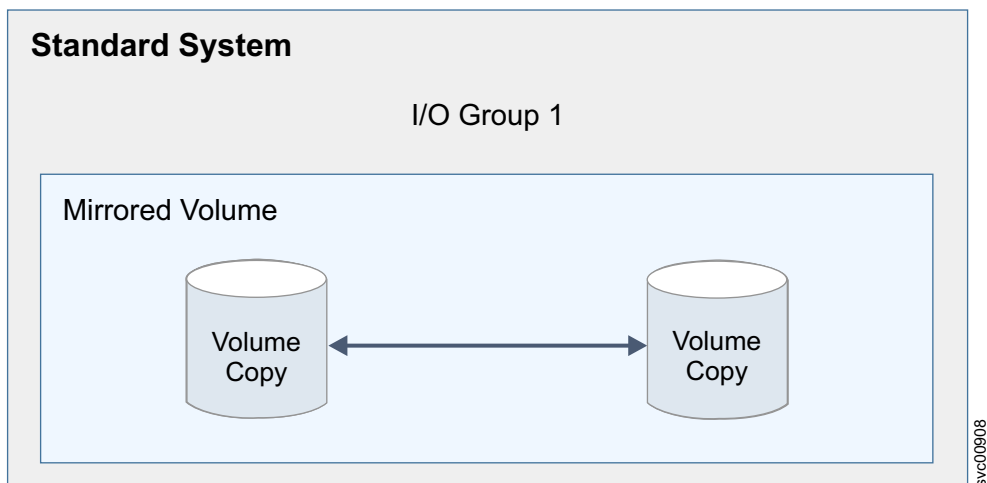

Figure 4. Example of mirrored volumes
- *Mirrored volumes*, where copies of the volume can either be in the same storage pool or in different storage pools. As Figure 4 shows, the volume is cached in a single I/O group. Typically, mirrored volumes are established in a standard system topology.